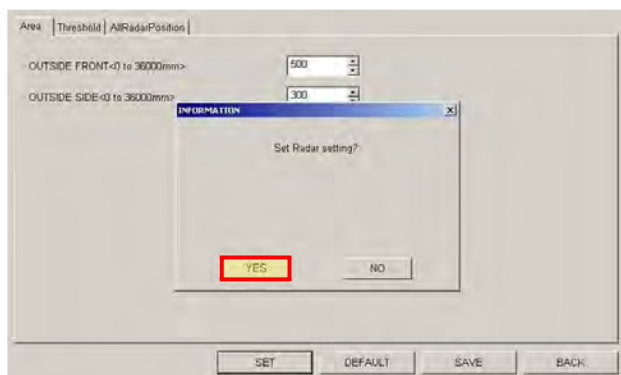

FIGURE 30-49. RADAR SCREEN
a. Select YES in the "Set Radar setting?" screen. See Figure 30-49.